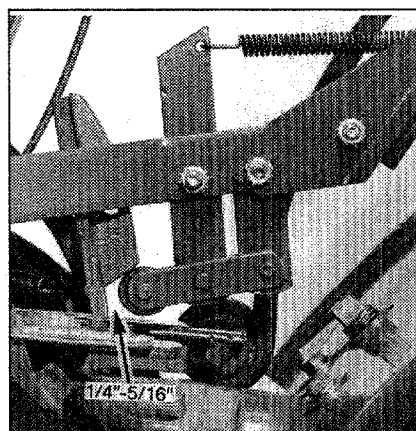

Figure 5-12: Shift into FORWARD and measure distance between roller and upright bracket using the belt adjustment tool.
2. Move the Wheels/Tines/PTO Drive Lever fully down to the FORWARD position. The clutch roller at the bottom of the lever should be positioned underneath the belt adjustment block (Figure 5-12). Don't let the clutch roller move during the next few steps. If it moves, you'll get a false belt tension reading.
3. The belt tension is correct if the front of the clutch roller is $1/4$ "-to- $5/16$ " away from the face of the upright bracket that holds the adjustment block in place (Figure 5-12). To measure this distance: